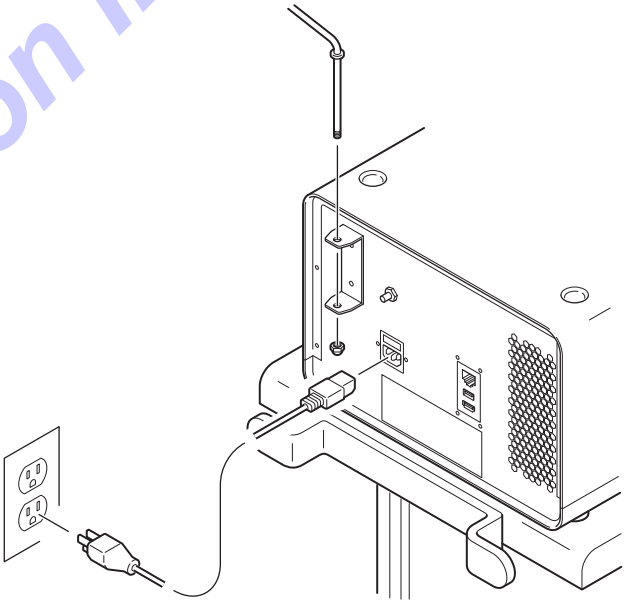

Figure 23 – Initial Installation
1. Put the console on a flat, sturdy surface near a hospital-grade power receptacle with protective earth (ground). Make sure the console is outside the sterile field (Figure 23).